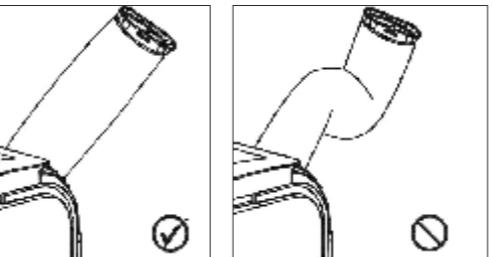

Fig. 2
2) Extend the air duct not more than 400 mm. The hose must be located in parallel to the surface. It is forbidden to fold the hose! (see Fig. 2)